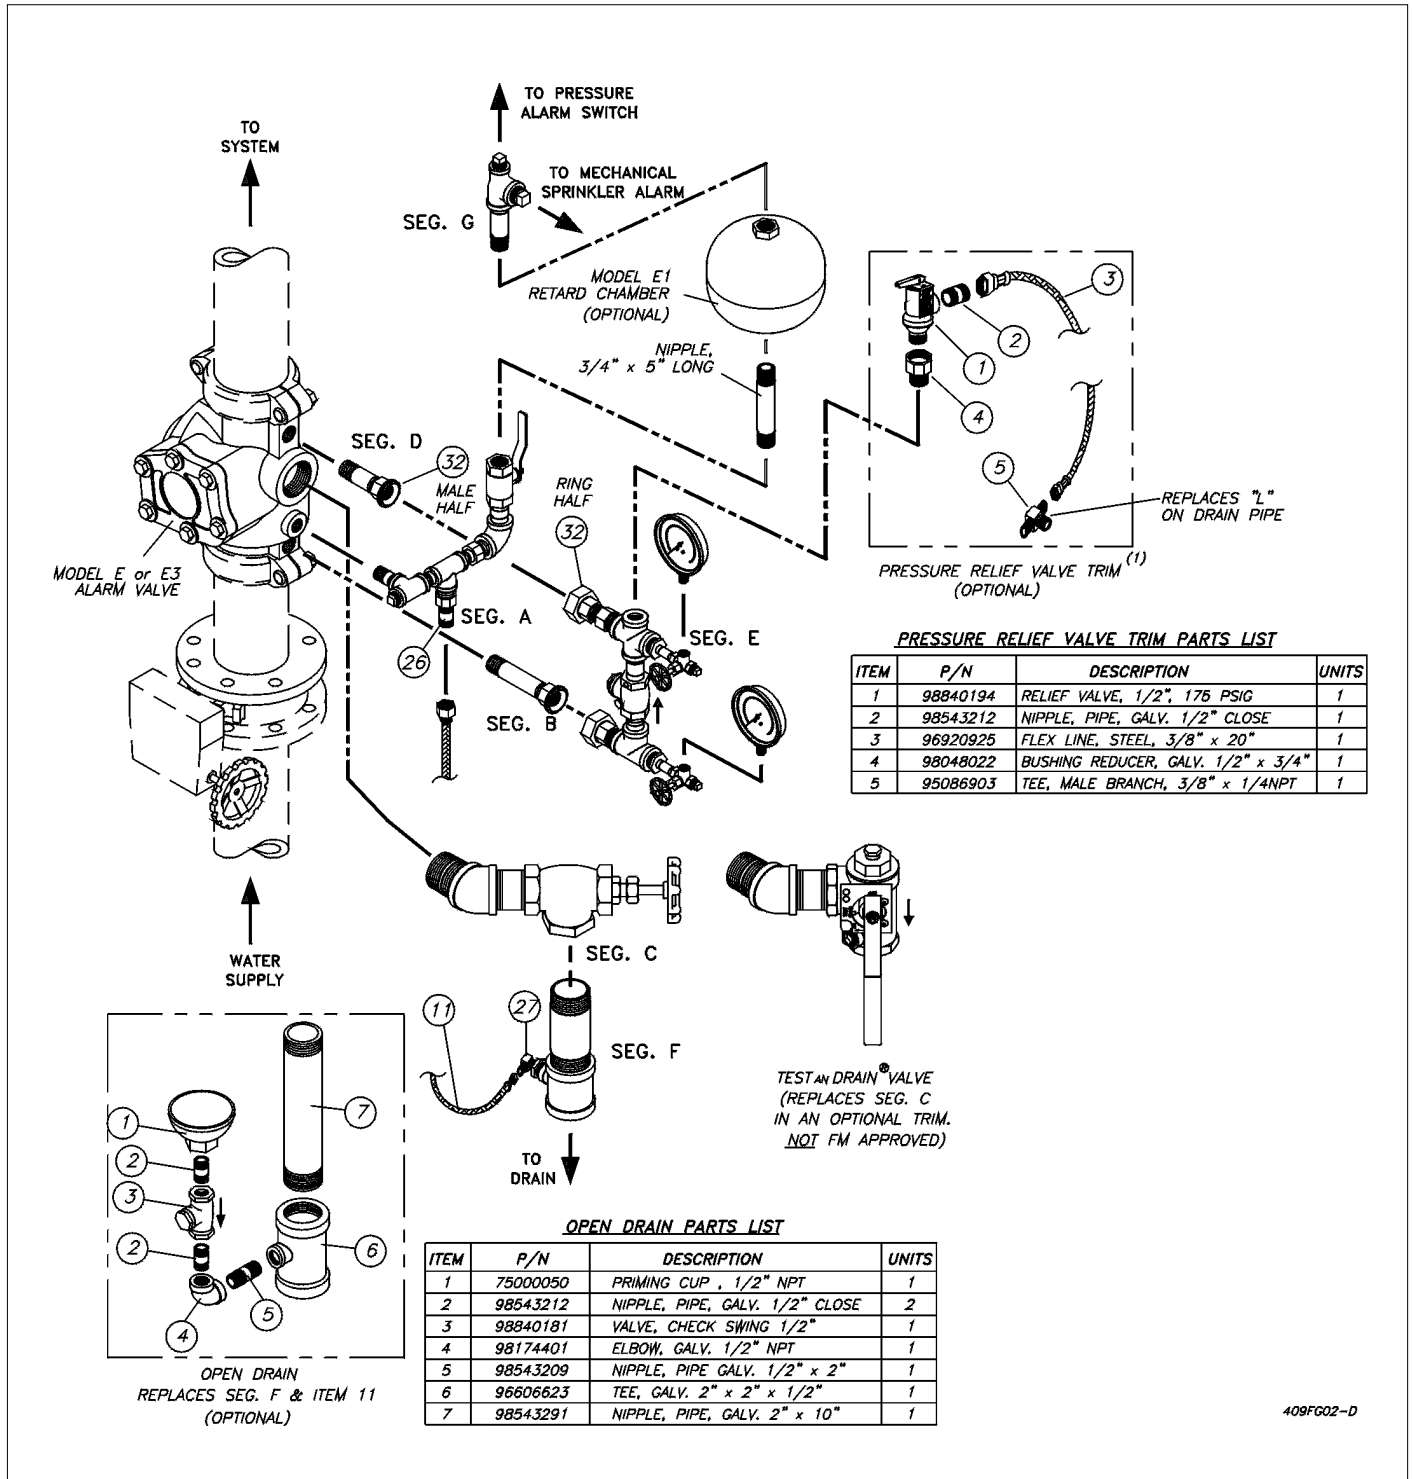

Figure 2 - Model E3 Alarm Valves with Variable Pressure Trim
The basic trims of the Reliable Model E3 High Pressure Alarm Valve (Figure 2) are arranged for rapid, easy and compact attachment. They serve as a connecting point to Reliable alarm and other devices. The trims also serve as a means for testing the operation of the alarm devices while exercising the alarm valve clapper. Two Model E3 High Pressure trim sets are available for use with the Model E3 High Pressure Alarm Valve:
• Variable Pressure Vertical Installation (Figure 2)
Constant Pressure Vertical Installation (Figure 2)